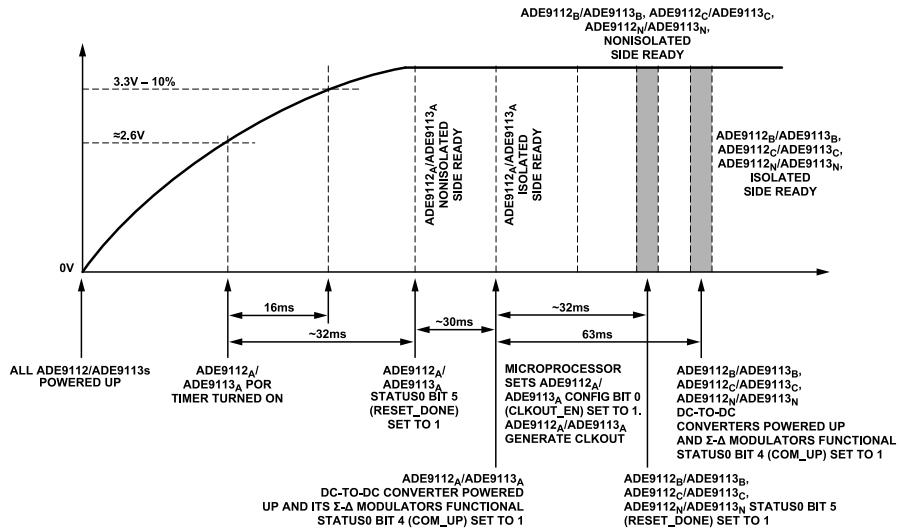

Figure 45. Power-Up Procedure for Systems with Multiple Devices; Only Phase A ADE9112_A/ADE9113_A Is Clocked from a Crystal
For the polyphase energy meters detailed in the Polyphase Energy Meters section, in which, one single crystal is used, the power-up procedure is as follows (see Figure 45):
1. Supply VDD to the ADE9103/ADE9112/ADE9113 devices. To ensure that the Phase A ADE9112/ADE9113 (shown as ADE9112_A/ADE9113_A in Figure 45) device starts functioning correctly, the supply must reach 3.3 V – 10% in less than 16 ms from approximately a 2.5 V level. The ADE9112_A/ADE9113_A device is clocked by the 16.384 MHz crystal and then starts functioning. The other ADE9103/ADE9112/ADE9113 devices are not clocked yet.
7. Initialize any registers of all remaining ADE9103/ADE9112/ADE9113 devices. Select one ADE9112/ADE9113 device (Phase C, for example, ADE9112_C/ADE9113_C in Figure 45) and connect the CLKOUT/DREADY pin to an external interrupt input and output pin of the microcontroller. ADE9112_C/ADE9113_C must have Bit 0 (CLKOUT_EN) in the CONFIG0 register left at the default value of 0 to use the DREADY functionality of the CLKOUT/DREADY pin.